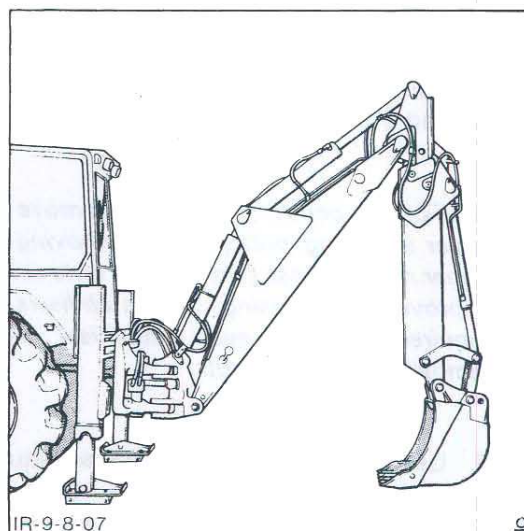

Figure 8
2. Lower the stabilisers to the ground and position the backhoe parallel to the centre line of the Unit with the dipstick vertical and the bucket on the ground, Figure 8. On sideshift Units ensure the backhoe carriage is positioned in the centre of the mainframe.